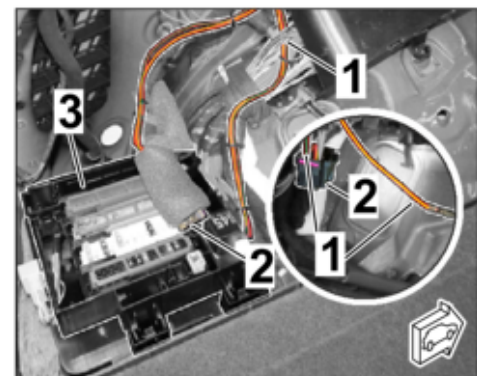

Figure 10
2.3.5 Route RD/GN and RD/YE lines to connector B (preparation). ⇒ *Figure 10*
Release connector B, connect lines RD/GN and RD/YE as described in Step 2.3.2. ⇒ *Figure 10 -Magnifier-*